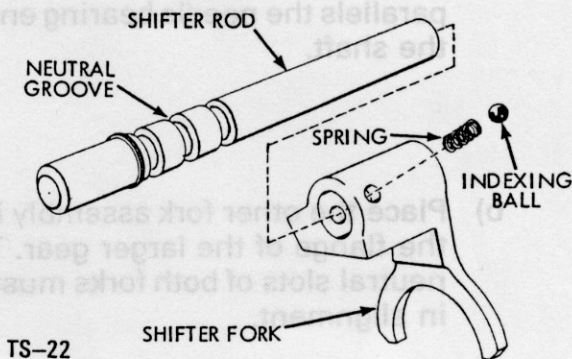

Figure 22 - Assemble Shifter Forks to Shifter Rods
1. Assemble the shifter rods and shifter fork bodies as follows: (Figures 22 & 23)